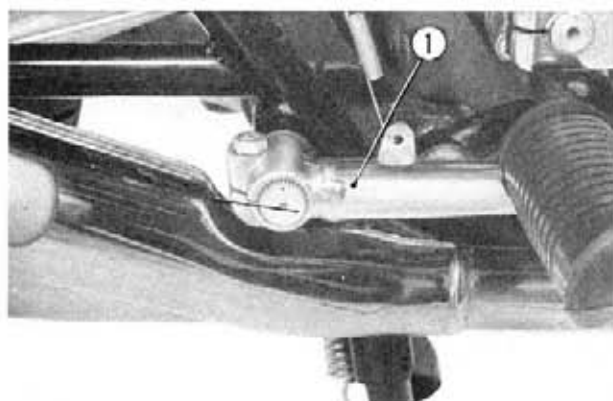

Fig. 2-8 ① Rear brake pedal
6. Install the rear brake pedal and connect the stop switch spring (Fig. 2-8)